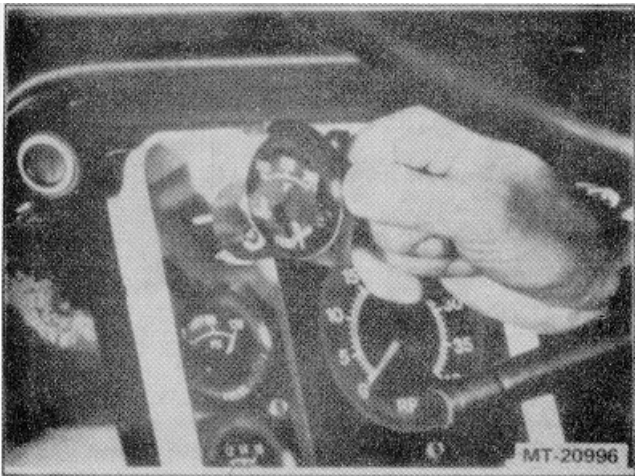

Figure 7 Removing Electrically Actuated Water Temperature Gauge
2. Individual gauges can now be removed by loosening gauge mounting screws as required. All electrically actuated gauges (Figure 7) are removed from front and have plug-in spring loaded connections.